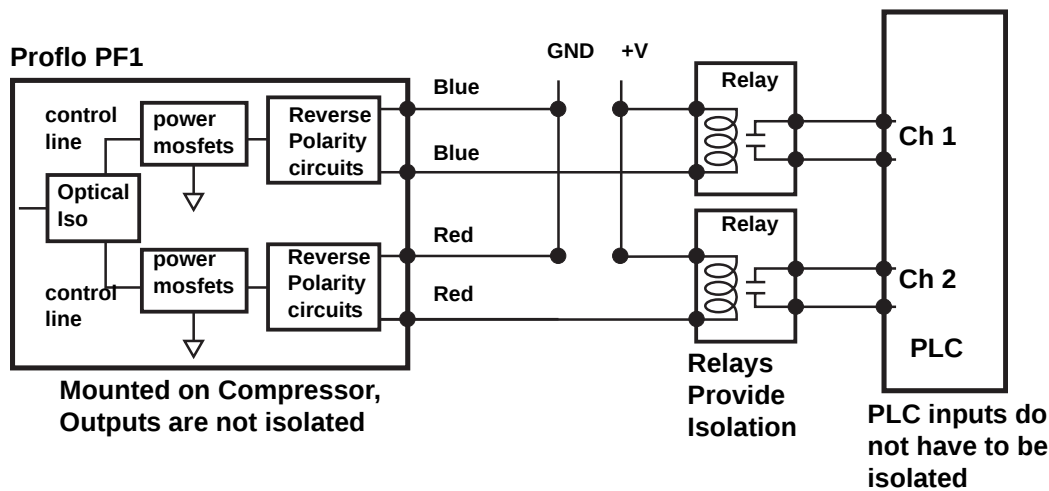

FIGURE 4-19 EXAMPLE DIAGRAM TO READ BOTH PULSE & ALARM CONTACTS - USING RELAYS
5. If Isolated PLC inputs are not an option, yet another method of achieving isolation between the Proflo PF1 outputs and the PLC is to wire the Proflo to the "coil" side of a relay. Then use the contact side of the relay to the control system. There are relays on the market that are very cost effective. Ariel recommends using a solid state type relay for long life. See Figure 4-19